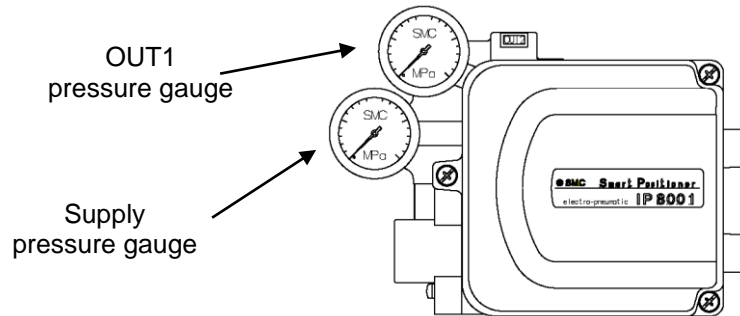

Fig. 16
- \*5: A Description of pressure gauges mounted on the positioner are as shown in Fig. 16.